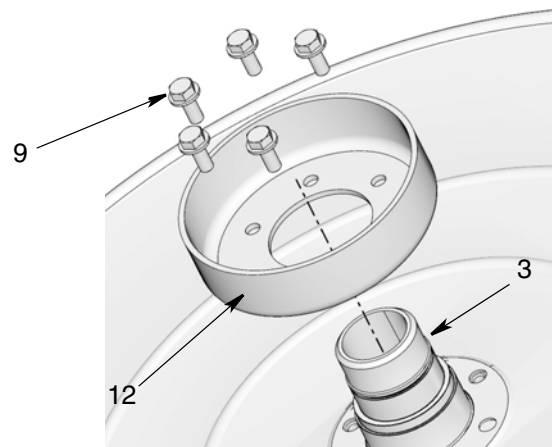

FIG. 29
- c. Remove screws (9) and brake hub (12). Support swivel (3) from inside (FIG. 29).